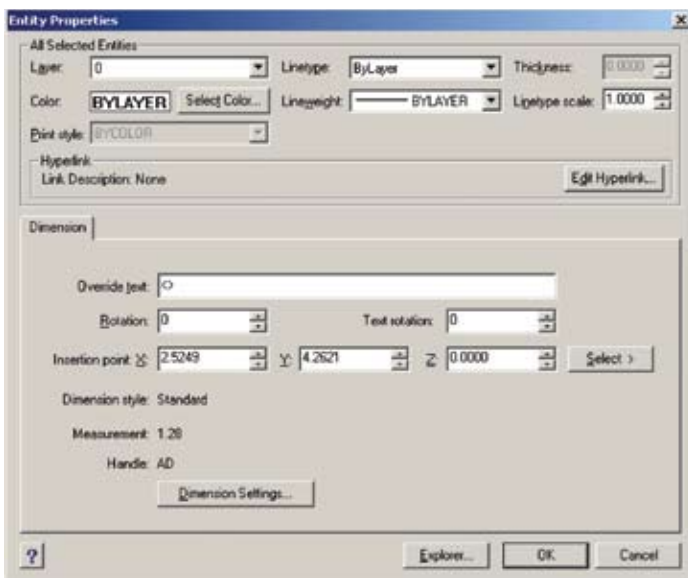

Figure 7.7
1. Double-click the text. Notice the Entity Properties dialog box, as shown in Figure 7.7.